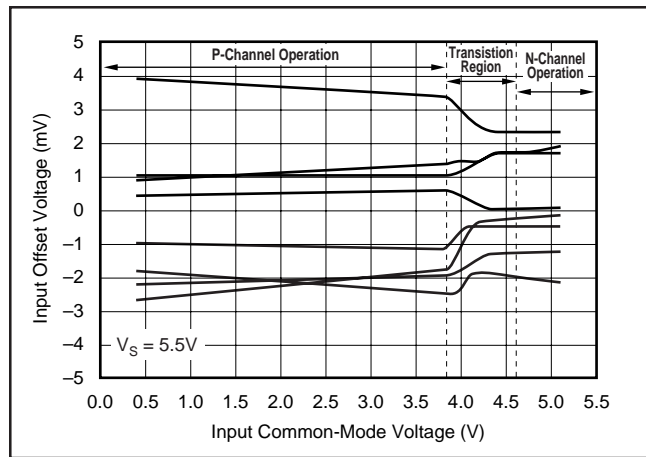
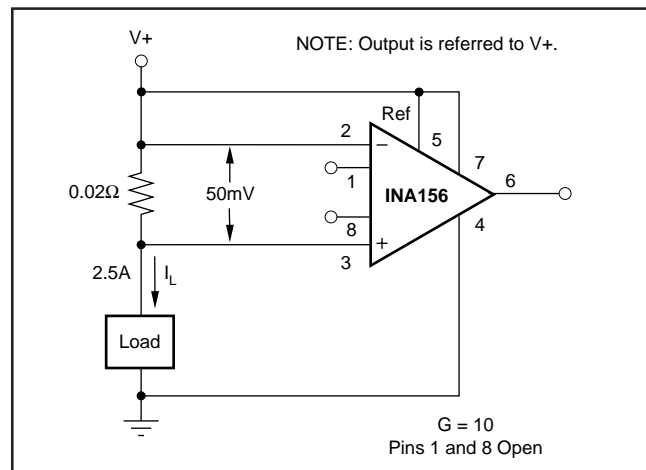

FIGURE 6. Input Offset Voltage Changes with Common-Mode Voltage.
FIGURE 7. Single-Supply, High-Side Current Monitor.
NOTES: (1) For further information, refer to typical performance curves on common-mode input range. (2) Operation beyond (V+) – 1.8V (max) results in reduced common-mode rejection. See discussion and Figure 6 in the text of this data sheet. (3) Does not include error and TCR of additional optional gain-setting resistor in series with R_{G1} , if used.
The internal amplifiers have rail-to-rail input stages, achieved by using complementary n-channel and p-channel input pairs. The common-mode input voltage determines whether the p-channel or the n-channel input stage is operating. The transition between the input stages is gradual and occurs between $(V+) - 1.8V$ to $(V+) - 1V$. Due to these characteristics, operating the INA156 with input voltages within the transition region of $(V+) - 1.8V$ to $(V+) - 0.8V$ results in a shift in input offset voltage, and reduced common-mode and power supply rejection performance. Typical patterns of the offset voltage change throughout the input common-mode range are illustrated in Figure 6. The INA156 can be operated below or above the transition region with excellent results. Figure 7 demonstrates the use of the INA156 in a single-supply, high-side current monitor. In this application, the INA156 is operated above the transition region.